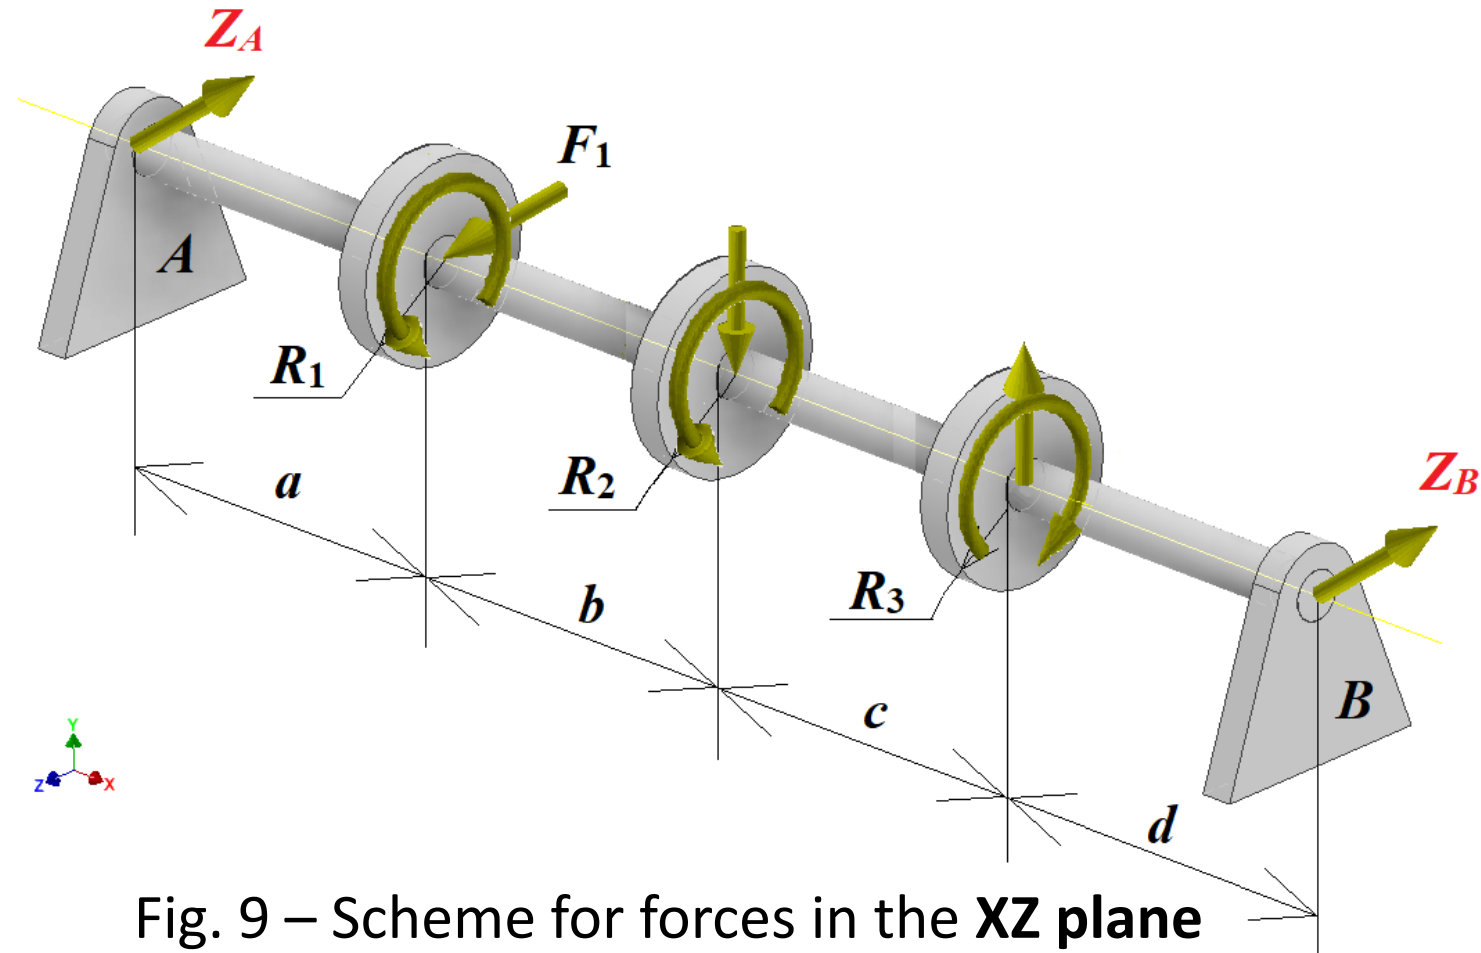

Fig. 9 – Scheme for forces in the **XZ plane**
9. Consider the equilibrium in the **XZ plane** using the scheme in **Fig. 9**.